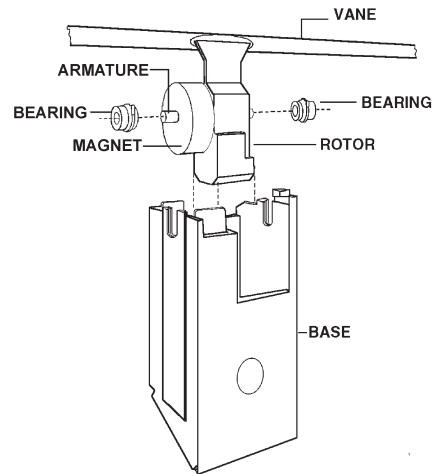

Figure 5-C: Segment bearing replacement
- 4) Remove all particles from the magnet and armature. Refer to Figure 5-C to locate these items. Use your finger or a dry cloth. Do not use an oily cloth to clean the segment assembly! If segment is oily, use degreaser to clean.